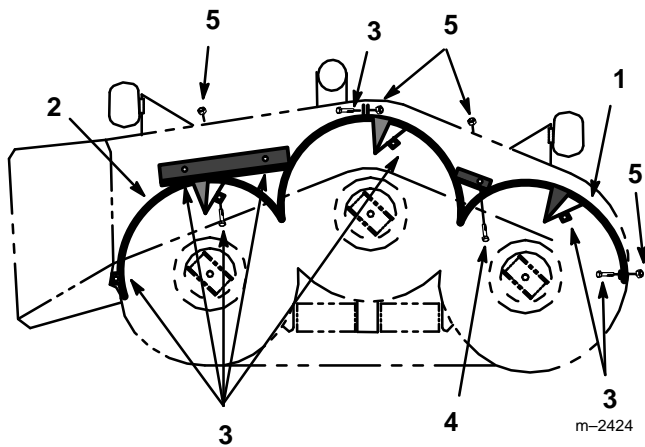

Figure 2
1. Place left and right sides of baffle together with center pin inserted into flange. Secure flanges with 5/16 x 5/8" (16 mm) bolt and 5/16" lock nut. (Fig. 2).
2. Place baffle assembly inside cutting chamber. (Fig. 2). Secure with 5/16-5/8" (16 mm) bolts, all heads through from inside, and 5/16" lock nuts.